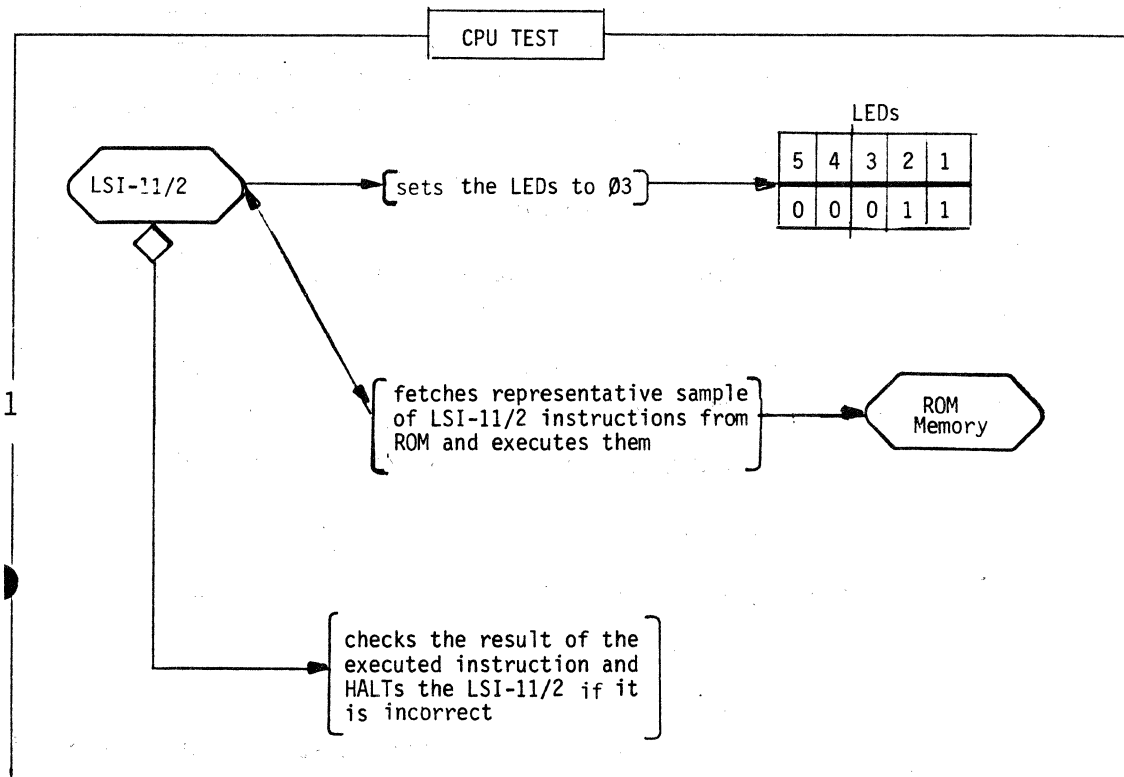

Fig. 3-14. CPU Test.
1. CPU TEST (Fig. 3-14). The test first sets the LEDs to 03, then fetches one instruction at a time from the read-only memory (ROM) and executes it. The test executes the simpler instructions first and then proceeds to more complex instructions. The CPU test verifies most LSI-11/2 operations by checking: